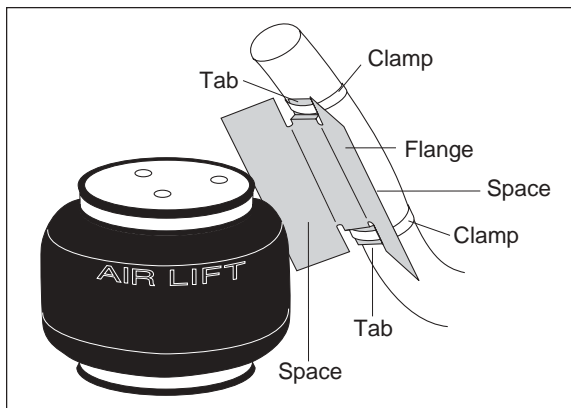

Figure 10
1. Bend tabs to provide a  $\frac{1}{2}$ " dead air space between exhaust pipe and heat shield (Figure 10).
2. Attach the heat shield (L) to the exhaust pipe using the provided clamps (N). Bend the heat shield for maximum clearance to the air spring (Figure 10).